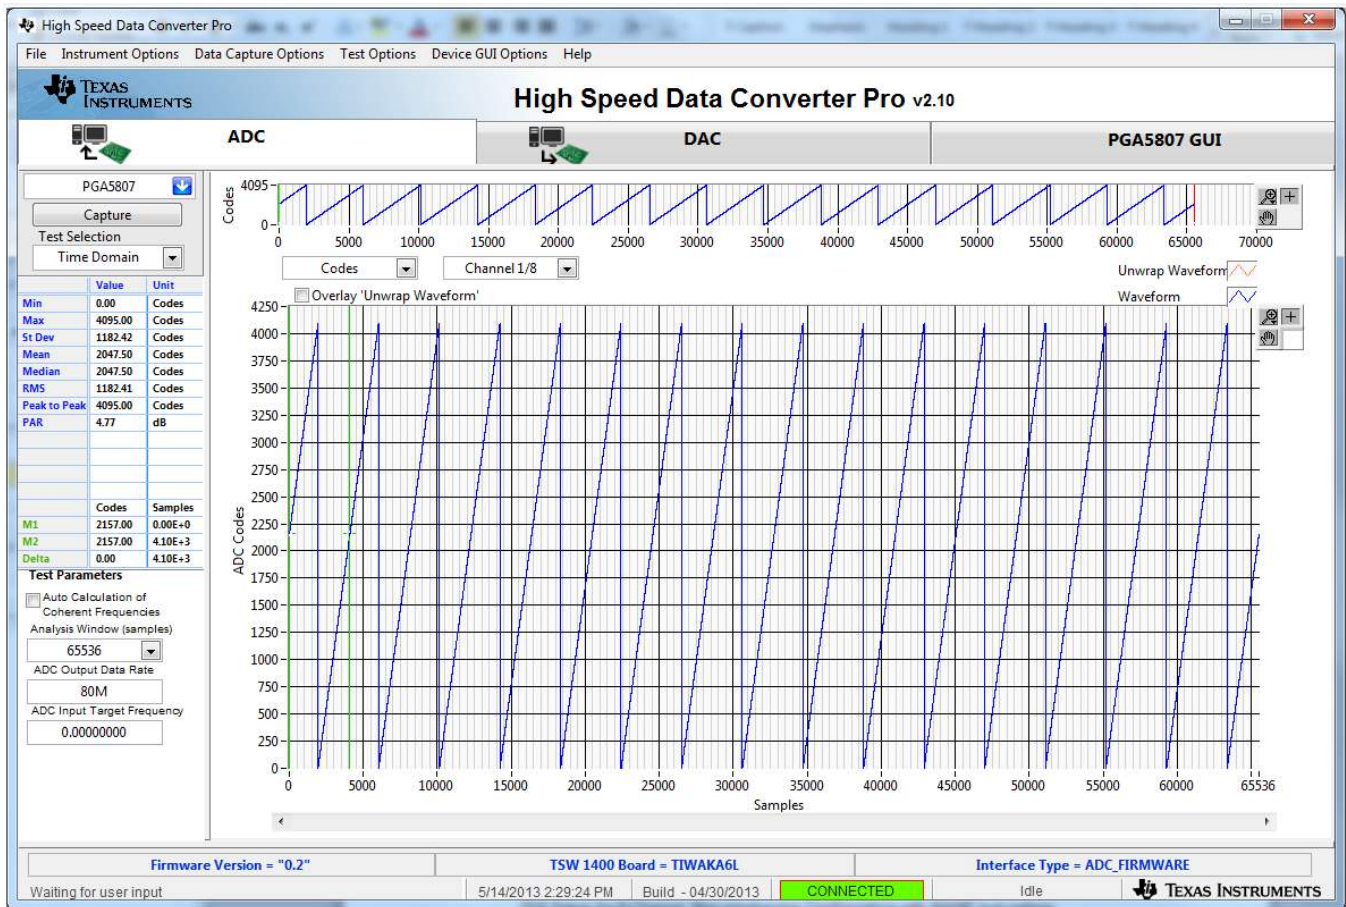

Figure 34. RAMP Capture
3. The saw tooth waveform should be captured and displayed as in Figure 34.